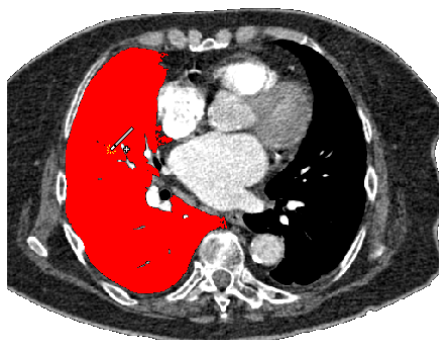

Figure 187 – Defining the area for Magic wand drawing tool
7. Hold down the left mouse button to define the starting point and drag out from the starting point until the marked area covers what you want to define. The longer away you drag from the starting point, the wider range of color will be included (see Figure 187).